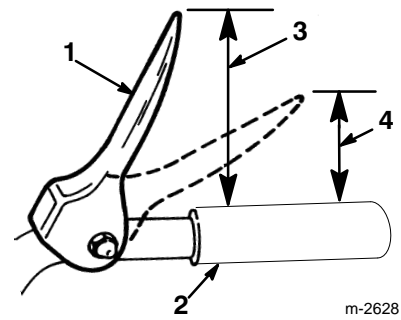

Figure 9
3. Adjust the flange locknut up or down on the traction control rod until the distance between the top of the handgrip and the bottom of the traction control lever (Fig. 9) is approximately five inches (12.7 cm).
The adjustment is correct when the wheels stop rolling backward and the distance between the top of the handgrip and the bottom of the traction control lever (Fig. 9) is three to four inches (7.6 to 10.2 cm)